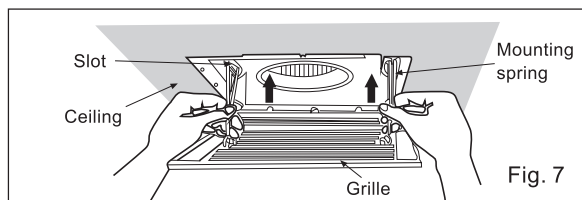

Fig. 7
9. Insert mounting springs into slots as shown and mount grille to fan body. (Fig. 7)